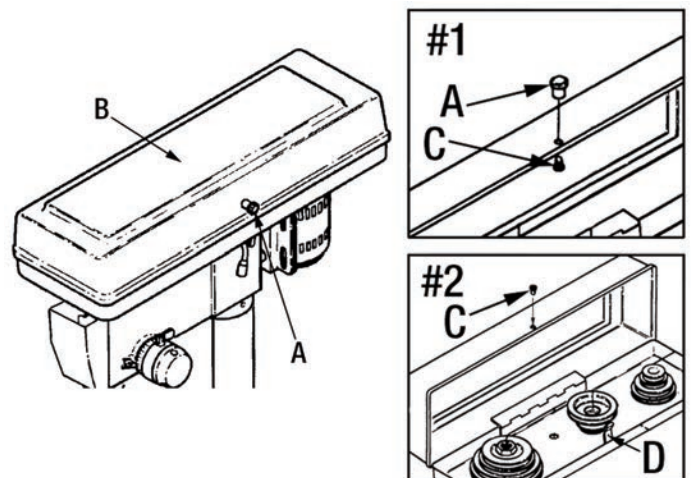

FIGURE 13B
1. Install the knob (A) Fig.13B to the pulley cover (B) using a small pan head screw (C) as shown in Option #1, Fig.13B.
2. For safety reasons, user may be required to lock the pulley cover to prevent easy access to the pulleys. This can be done by only using the small pan head screw (C). Close the pulley cover and screw pan head screw through the cover and into the tab (D) as shown in Option #2, Fig.13B.